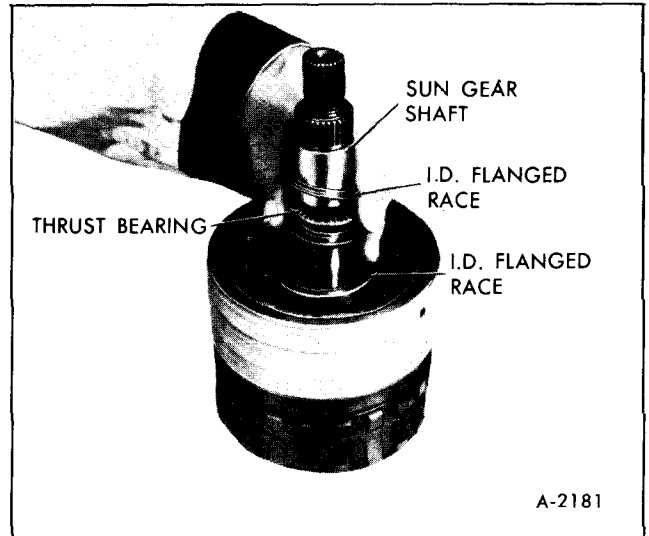

Figure 64-Installing Thrust Bearing over Sun Gear Shaft
16. Lubricate small diameter race with petrolatum and install race on center support with flange facing toward tower end, Figure 64.